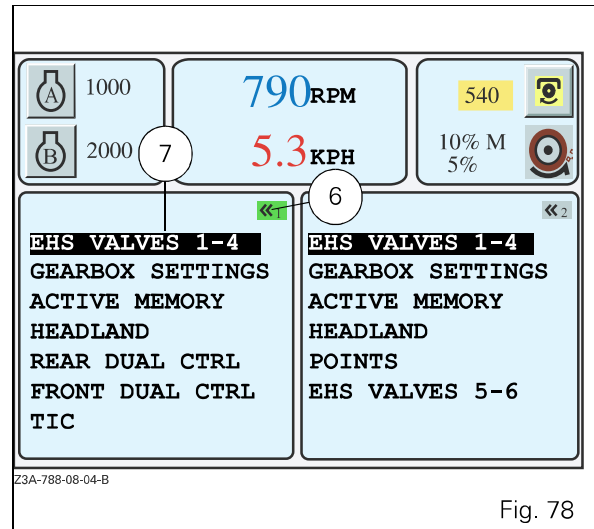

Fig. 78
- To start one of the applications, press the key <<1, or the key <<2 twice. The first key press selects the window and the second displays the list. The active application is represented by a green button at the top right of the window (ref. 6 Fig. 78).
- To call up the various menus, select the application using the encoder. The selected application is displayed in a black frame (ref. 7 Fig. 78).